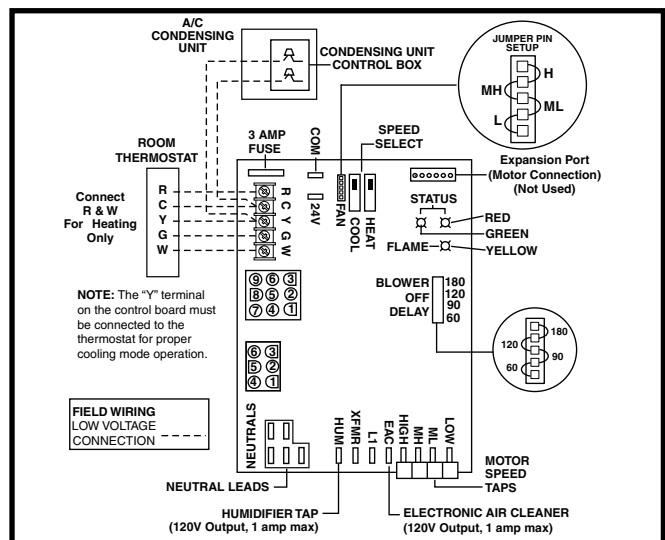

Figure 13. Low Voltage Connections
- The thermostat must be installed according to the instructions supplied by the thermostat manufacturer. Low voltage connections (24 VAC) from the thermostat are wired to the terminal strip on the integrated control in the furnace. Figure 13 contains the proper connections for heating only (two-wire) and heating/cooling (four-wire) applications.
- The six pin terminal marked "Expansion Port" (Figure 13, page 14) is not used in the single stage furnace as shipped from the factory. It is used for the furnace control board to communicate to a fixed speed or variable speed high efficiency motor that may be optionally installed. Please contact your distributor for the proper upgrade motor kit.
- ✓ Verify the jumper setting (for fan speed) on the control board. See Figure 13, (page 14).
- When the thermostat energizes the G terminal for continuous fan (without calling for heat or cooling), the indoor fan is energized on the selected FAN speed. See Figure 13, (page 14). The control defaults to MEDIUM HIGH if the movable jumper is not attached.